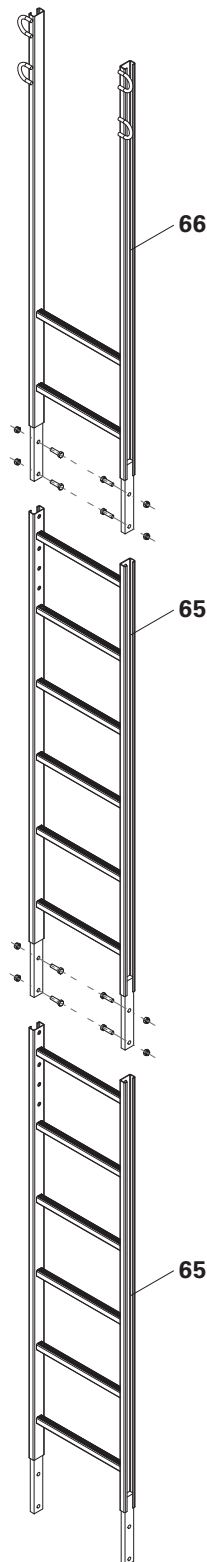

Fig. D3.02
1. Loosen Bolts and Nuts M12 x 40 of the top ladder (66) and remove.
2. Connect both ladders with Bolts and Nuts M12 x 40. (Fig. D3.02)
- Fix ladder hook (70) to Ladder 180/6 (65) at the top using Bolts and Nuts M12 x 25. (Fig. D3.02)